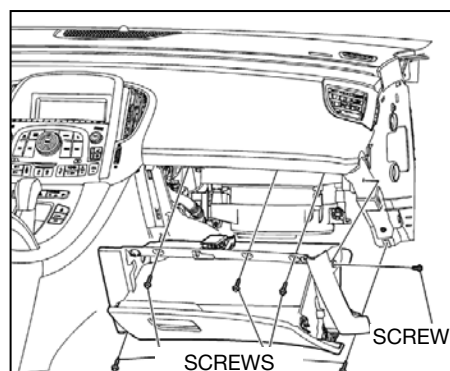

Fig. 19
3. Remove glove compartment attaching screws and glove compartment (see Fig. 19).